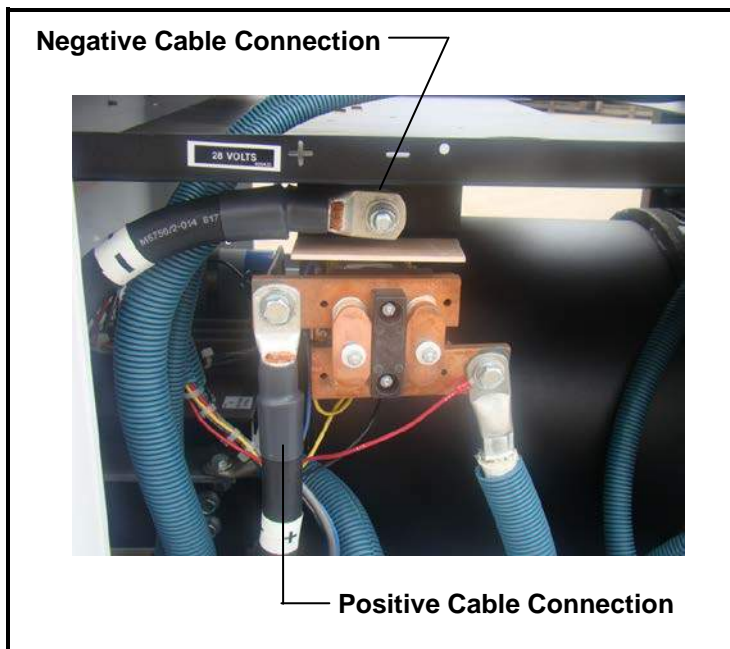

Figure 3 Output Cable Connections
(2) Cable Connection (See Figure 3)